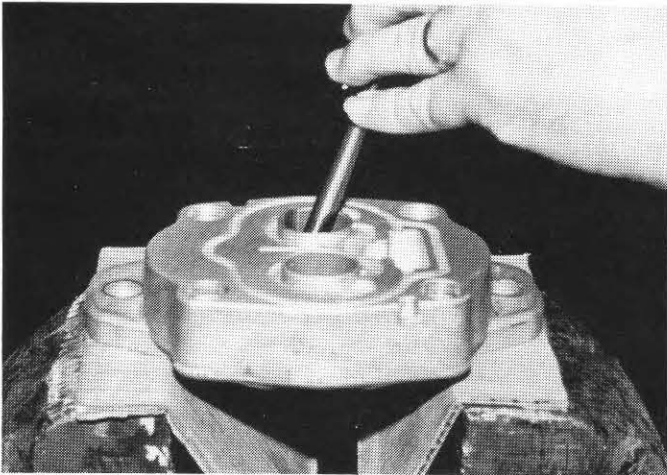

FIG. 4
7. Slide a punch of appropriate size through the bearing and against the seal's metal casing. Hold the punch away from the bearing and drive the seal out without damaging the seal bore. Move the punch around the seal as it is driven out. Do not allow the punch to rest against the seal bore or bearing while driving the seal out. (Fig. 4)